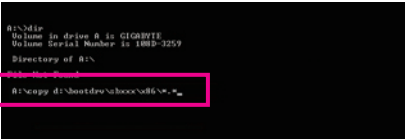

Figure 1
- 3: At the A:\> prompt, type the following command. Press <Enter> after the command (Figure 1):